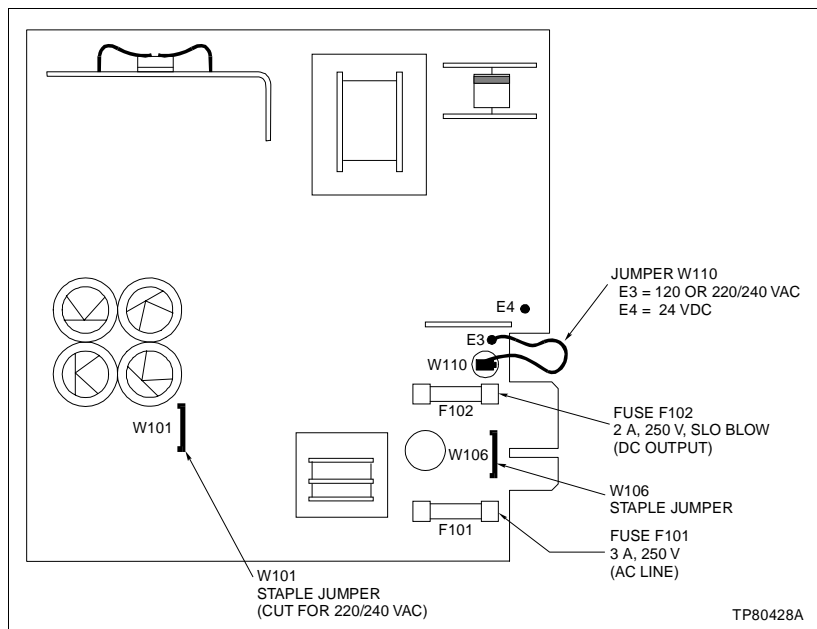

Figure 8-3. Replacing Power Supply Board Fuses
NOTE: If the controller is to be used with 220/240 VAC supply, or the controller has to be set for single point grounding, jumpers must be removed from the power supply board prior to entering into service. Refer to Figure 2-4 and **DC SYSTEM COMMON GROUND** in Section 2. Refer to Figure 8-3 for location of jumpers.
5. Reach in the housing and pull the power supply board to remove. Examine the two fuses, F101 and F102 (Fig. 8-3) on the power supply board.